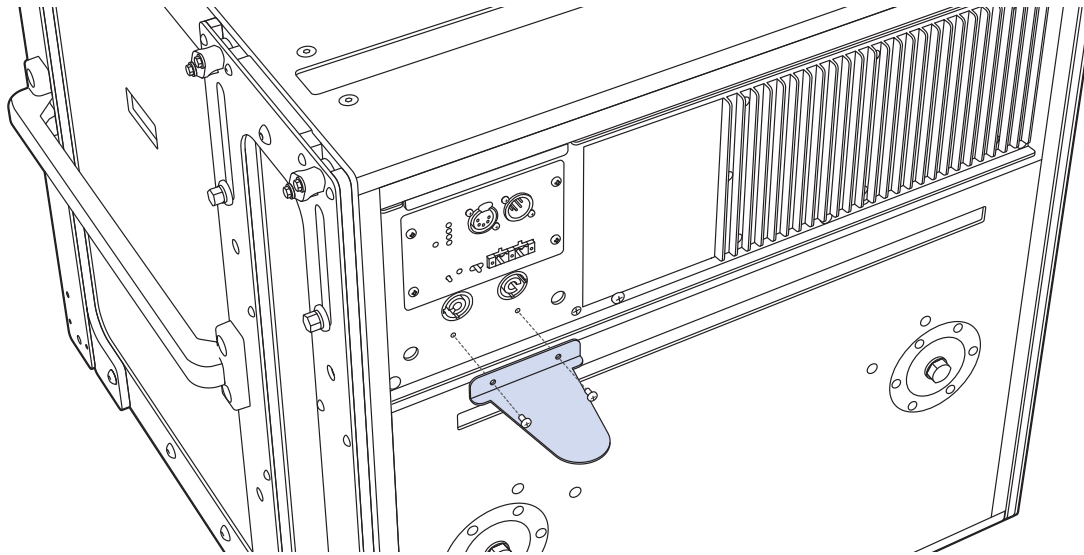

Figure 32: Attaching Rain Hood Baffle to LEOPARD Loudspeaker User Panel
4. Attach the Baffle in the orientation shown in Figure 32 using the two provided screws. The recommended torque value for both screws is 10–12 in-lbs (1.1–1.4 N·m).